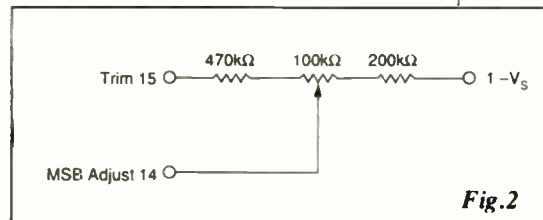

Fig. 2
The MSB error of the PCM61P can be adjusted to make the differential linearity error (DLE) at bipolar zero (BPZ) essentially zero. This is important when the signal output levels are very low, because zero crossing noise (DLE at BPZ) becomes very significant when compared to the small code changes occurring in the LSB portion of the converter. Static adjustment of DLE at BPZ can be made with extra circuitry shown in Fig. 2.
Note: (1) MSB error (Bipolar Zero differential linearity error) can be adjusted to zero using the external circuit shown in Figure 2